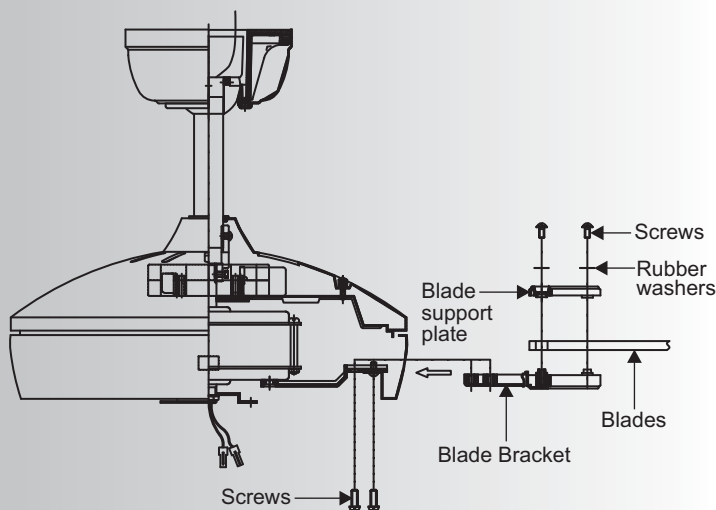

Fig. 15
Step 2. Attach each blade assembly to the motor using the "Pre-Installed" mounting screws in the blade bracket. (Fig 15)